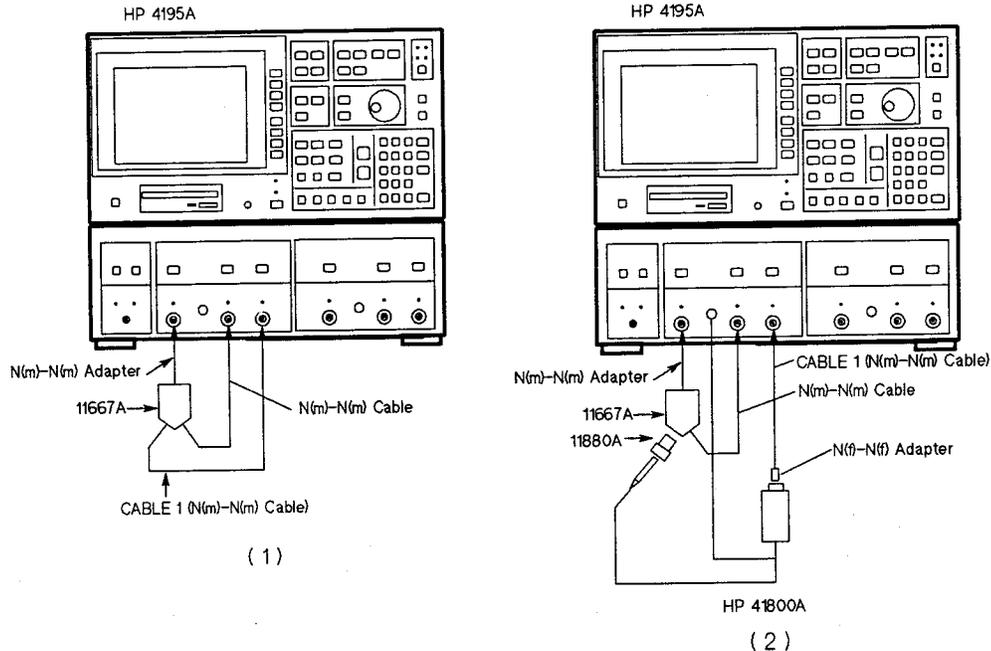

Figure 4-1. Probe Gain/Frequency Response Test Setup
1. Connect the power splitter to the HP 4195A as shown in Figure 4-1 (1).
6. Disconnect **CABLE 1** (see Figure 4-1 (1)) from the power splitter, and connect the HP 41800A between the power splitter and **CABLE 1** as shown in Figure 4-1 (2).